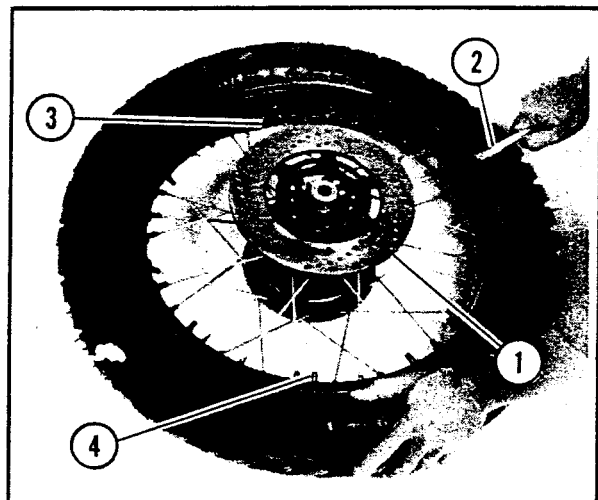

Figure 5-67. Breaking Tire Bead
6. See Figure 5-67. Starting on side of wheel on which brake disc (1) is mounted, use two tire irons (2) from vehicle tool kit to break tire bead away from wheel rim. Start at bead lock (3) and work around wheel rim toward valve stem (4). Stand on the tire sidewall or push it with your hands as required to separate it from the wheel.